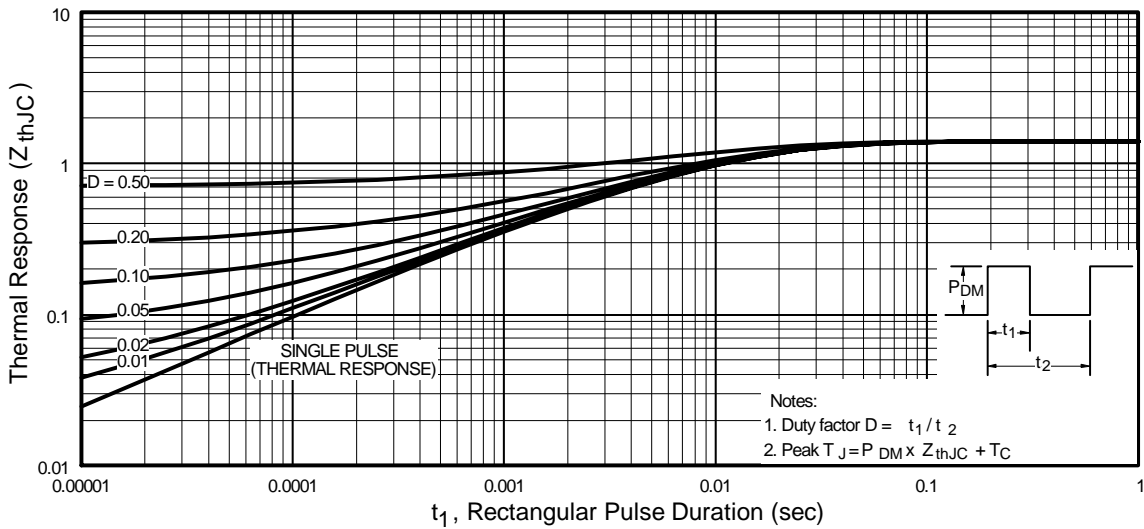

Fig 11. Maximum Effective Transient Thermal Impedance, Junction-to-Case
- ① Repetitive rating; pulse width limited by max. junction temperature. (See fig. 11)
- ② Starting T_J = 25°C, L = 520μH